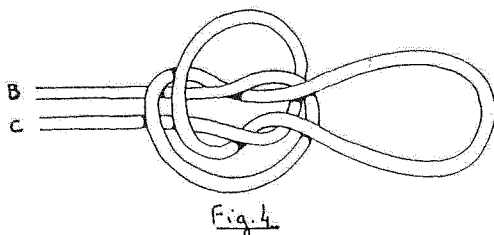

Fig. 4
The method is shown in Fig.4. Note that the tying is almost exactly the same as in Fig.1 for the Loop in the Bight; the only difference is in the pulling up. I believe that the knot is much more easily learnt than any of the many other bottle sling knots so well described by Ashley, Eric Franklin, Percy Blandford, and Geoffrey Budworth, and this is certainly true for those who already know the A.B. Loop in the Bight, as tied in paragraph (1)